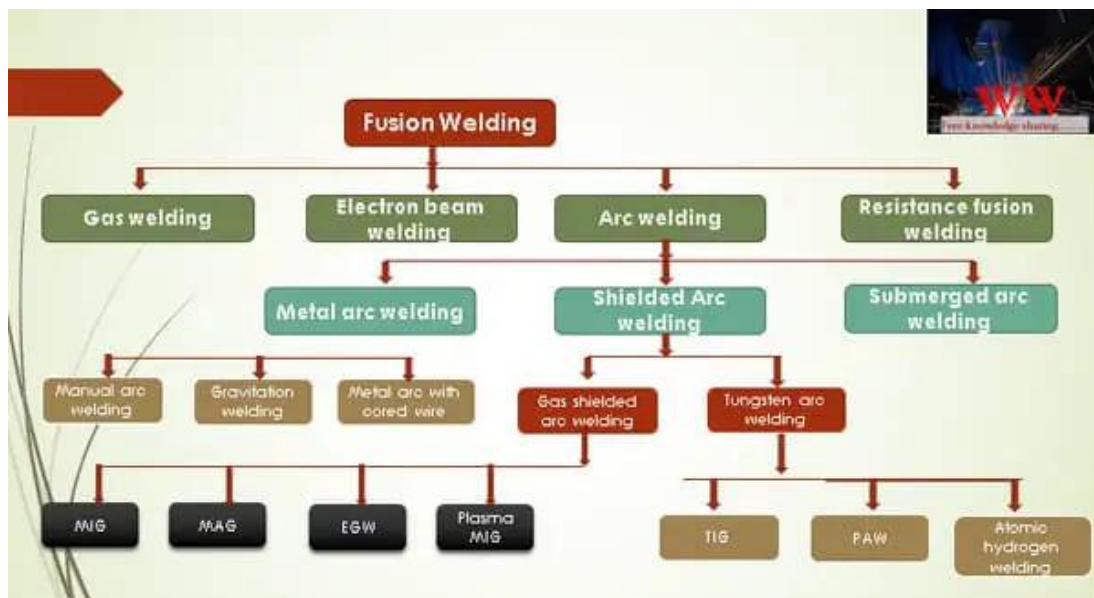

Figure 1, Fusion Welding classification
- Fusion Welding (General classification shown in figure 1) and